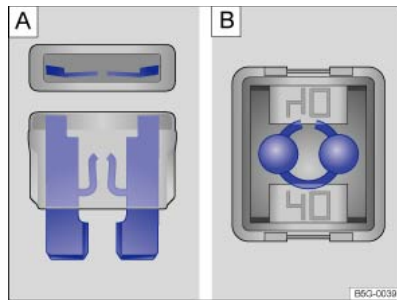

Fig. 213 Blown fuse: flat blade fuse, JCASE® fuse.
- If a *flat blade fuse* (ATO®, MINI®) has blown, this can be recognised from the top and side through the transparent housing by the fact that the metal strip has melted ⇒ *Fig. 213 A*.
- If a *JCASE® fuse* is blown, the melted metal strip can be seen from the top through the transparent housing ⇒ *Fig. 213 B*.